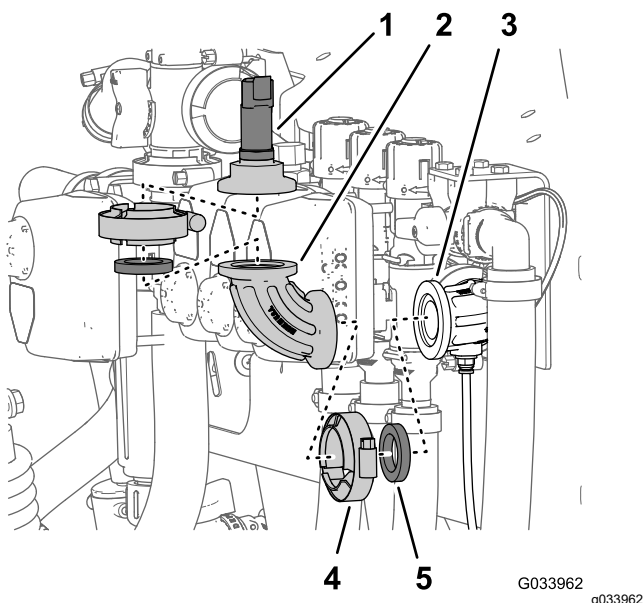

Figure 26
2. Remove the flange clamp that secures the pressure transducer to the 90° fitting, and remove the transducer, gasket and flange clamp (Figure 26).
3. Remove the flange clamp that secures 90° fitting to the 90° fitting with a connector for the sense tube, and remove the 90° fitting, gasket and flange clamp (Figure 26)